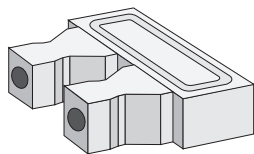

Figure 1-19. XDF/FCV Laser Fiber Optic Protective Plug (FCS Connector)
- **XDF/FCV laser fiber optic protective plug.** This plug protects the port card connectors during shipping, when relocating a Director, when returning cards because of a repair action, or whenever a fiber optic cable is not occupying a port. The plug has an FCS connector (Figure 1-19) for XDF or FCV port cards.